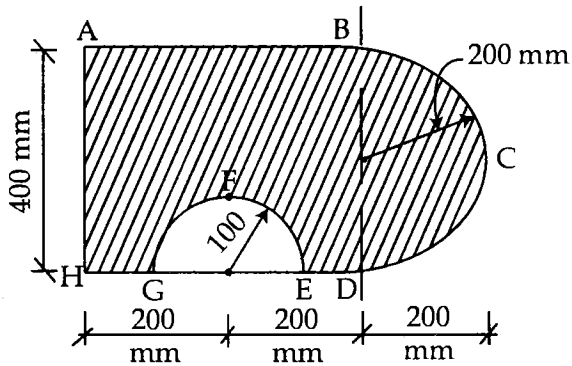

Fig. 4
3. (a) Find the centroid of a plane lamina shown 7+7 in the fig. 4.